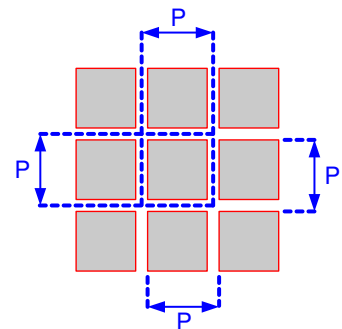

图 5-8. Micromirror Array Physical Characteristics
(1) See 图 5-8.
(2) The structure and qualities of the border around the active array includes a band of partially functional micromirrors referred to as the pond of micromirrors (POM). These micromirrors are prevented from tilting toward the bright or “on” state but still require an electrical bias to tilt toward “off.”